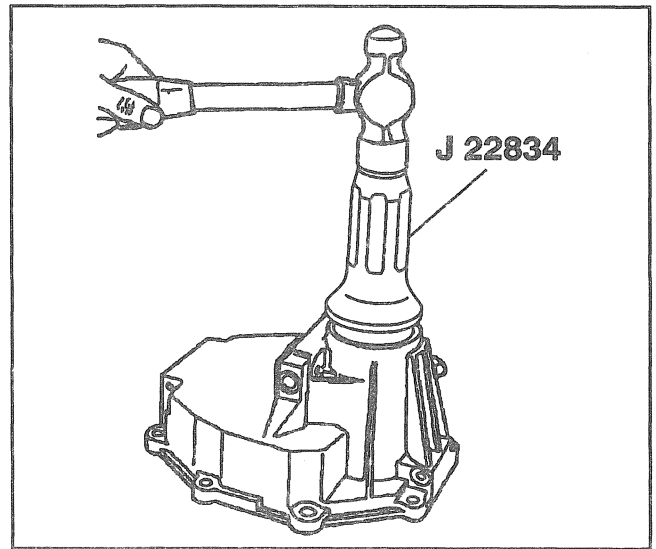

Figure 9—Extension Oil Seal Installation
Install or Connect (Figure 9)
1. New extension oil seal, using J 22834 (Figure 9).
Remove or Disconnect (Figure 9)
6. Extension oil seal (Figure 9).